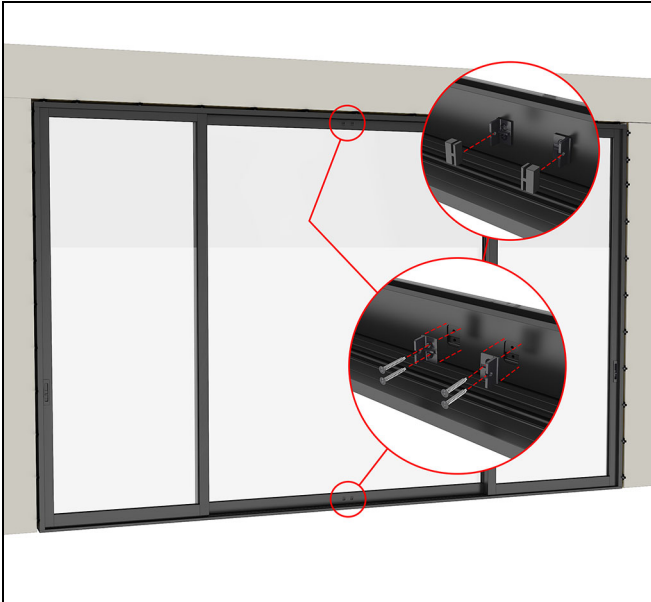

Figure 155 XOX Interior view
9. Install the bumper brackets on the rails of the (K) stationary panel. Orient the brackets so the tabs are
pointed left (as seen from the interior). There is a mating surface on the back side of the bracket that fits into the panel rout. Fasten with #10 x 1 1/2" (38) Phillips head screws. Insert the rubber bumpers over the brackets with the wider section facing left. If rails have two sets of bumpers, orient them in opposing directions. See Figure 155.